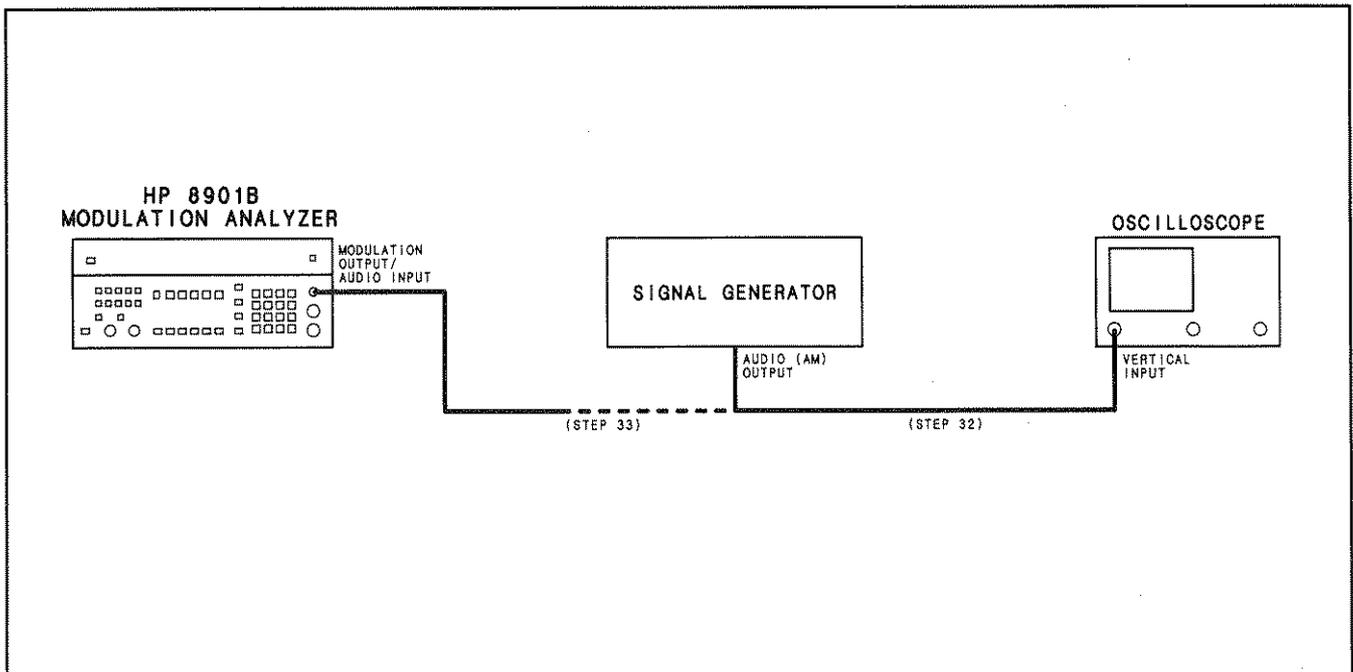

Figure 3-10. External Audio RMS Level Check Setup
- Connect the audio (AM or trigger) output of the signal generator to the input of the oscilloscope. (See Figure 3-10.) Set the signal generator's audio output level for 3 Vpp as read on the oscilloscope.
- Connect the audio output of the signal generator to the MODULATION OUTPUT/AUDIO INPUT of the Modulation Analyzer. (See step 33 of Figure 3-10.) Key in 30.0 and press the SPCL key. If the display is in dB V, press the LOG/LIN key to display V. The Modulation Analyzer's displayed level should be between 0.95 and 1.17V.